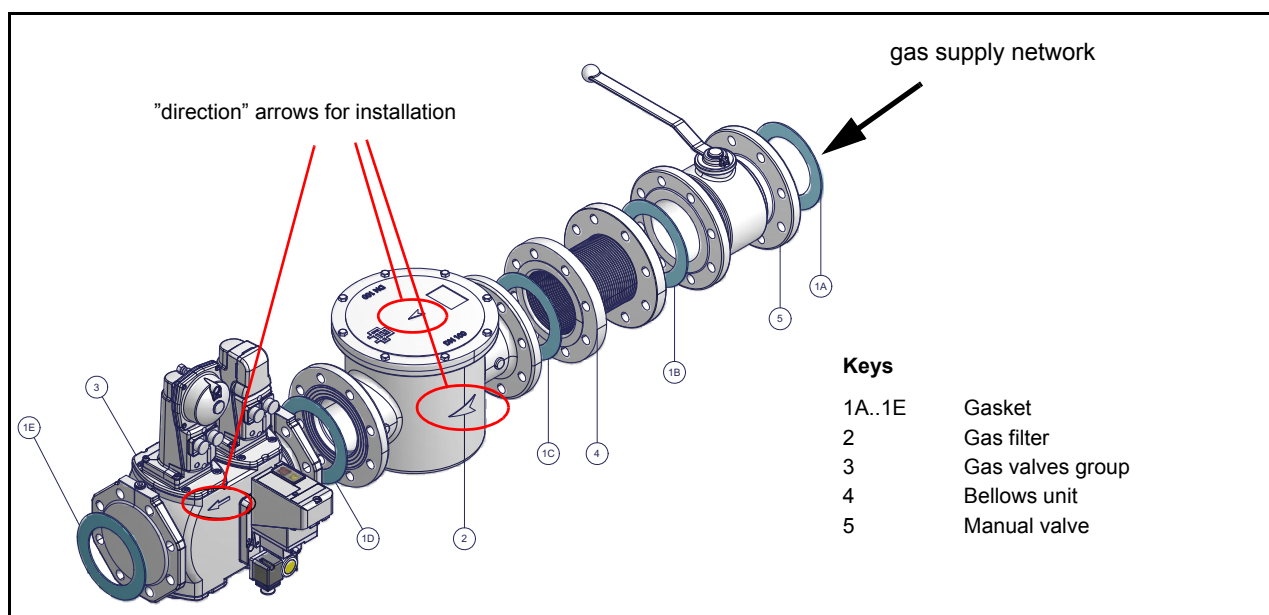

Fig. 7 - Example of gas train
- 1-b) in case of flanged joints: place a gasket (no. 1A..1E - Fig. 7) between the elements
**ATTENTION:** once the gas train is mounted according to the diagram on Fig. 7, the gas proving test must be performed, according to the procedure set by the laws in force.